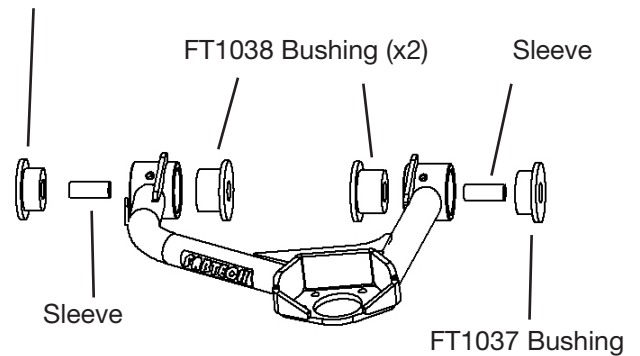

FIGURE 22 - STEP 19
19. Locate the new Fabtech control arms, two FT1038 bushings, two FT1037 bushings, two FT84 grease zerks, and two sleeves. Using the supplied grease packet, grease the bushings and sleeves before installing into the control arm. **SEE FIGURE 22**